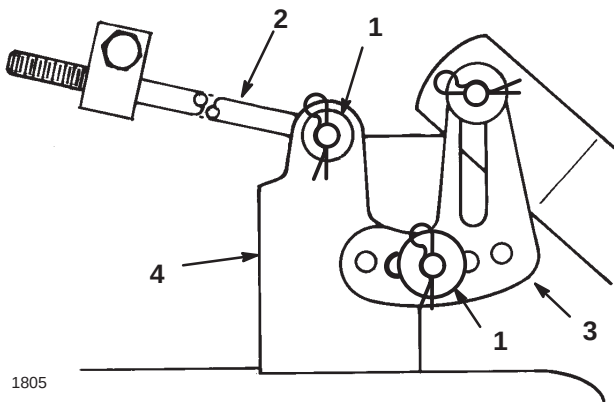

Figure 19
7. Remove the hairpin cotter and washer from the end of the long rod (Fig. 19). Slide the rod out of the mower mount.
8. Remove the hairpin cotter and washer at the mower leveling bracket (Fig. 19). Slide the bracket off of the mounting pin. Install the washer and hairpin cotter for storage.